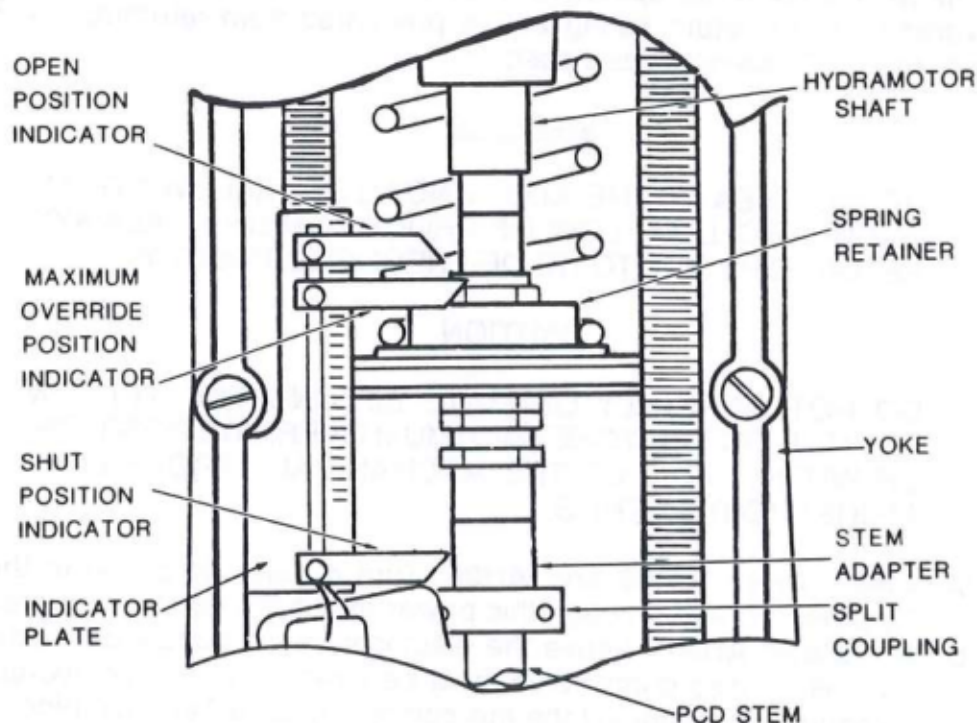

Figure 7-1. Position Indicators, Pull-Type
- 1). **Pull-Type** Hydramotors: Set the M.O. position indicator to 1/8" above the OPEN position indicator (see Figure 7-1).